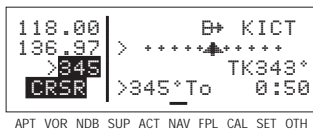

Figure 4-98
3. Press **CLR**. The mode will toggle between Leg and OBS. In the case of OBS mode, the selected course angle will be displayed (figure 4-98).